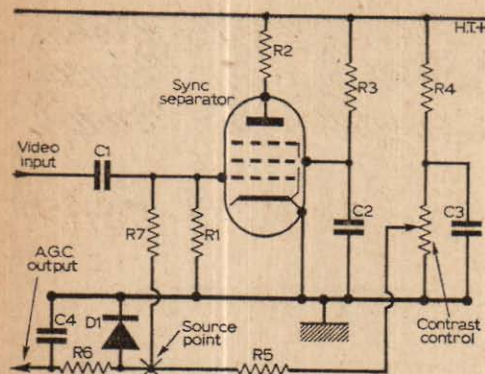

Fig. 15: Simplified circuit of mean-level a.g.c. system.
Control of the amount of feedback voltage is made by a compensating positive voltage being fed to the a.g.c. line. This is conveniently done by arranging the contrast control as part of a potentiometer network across the h.t. line, taking off the required positive voltage at its slider. Fig. 15 shows the rudiments of the system. The interesting points to note are the time constants of the circuit and the relative voltage levels. R5, R6 and R7 will all be resistors of more than 1M $\Omega$  and the screen resistor of the pentode, R3, will also be a high value. The anode resistor R2, however, will be much lower in value, and in practice may be part of a network, used to tap off the field and line sync pulses. The capacitors in this circuit would typically be 0.1 $\mu$ F.
If there is no control of contrast and a temporary short-circuit of the a.g.c. line to chassis increases the gain, the contrast control network should be suspected. This can be a considerably more complicated circuit than that shown in Fig. 15, and again some care must be taken when dealing with high value filter resistors which may have changed in value. An example might be when replacement of D1 or C4 only partially cures the fault. R5 or R6 may have changed in value if the set was operated under fault conditions for any length of time at minimum contrast setting. Temporarily shunting these resistors should not alter the gain drastically if all is in order. If it does, look for a "high" resistor at the point of test.
a.g.c. source, disconnecting at point X (Fig. 15), and inserting a fixed bias voltage in place of the a.g.c. An ordinary ohmmeter on the "Ohms" range is suitable, with 1.5 or 3V battery used as d.c. source (not on the high ohms ranges, which often use a battery of higher voltage). The potential on the test leads is opposite to the polarity markings, and the meter can be connected each way round, noting the effect on the picture. With the negative potential applied to the a.g.c. line, the  $\gamma$  should decrease, and vice versa. This test quickly determines whether the trouble is in the source stages and contrast network.